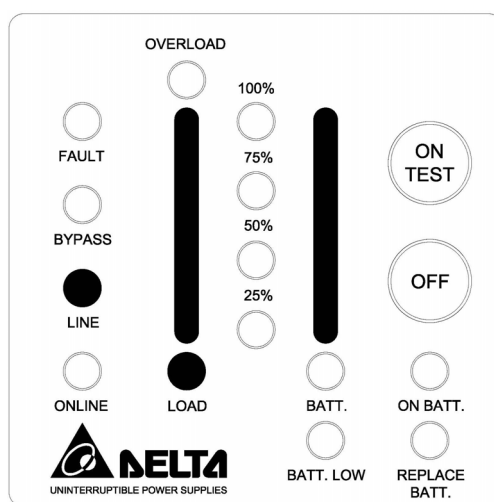

Fig 3-1 Stand-By Mode
- After that, the fan (in rear panel) will run and all LEDs will light for about 2-3 sec. Meanwhile the CPU inside the UPS setups the initial parameters. User also can check whether all LEDs are normal or not. The UPS is set in "STANDBY mode" initially, after a 'bee' is heard, the load LED lights on and the line LED shows AC utility status. Shown as fig 3-1.